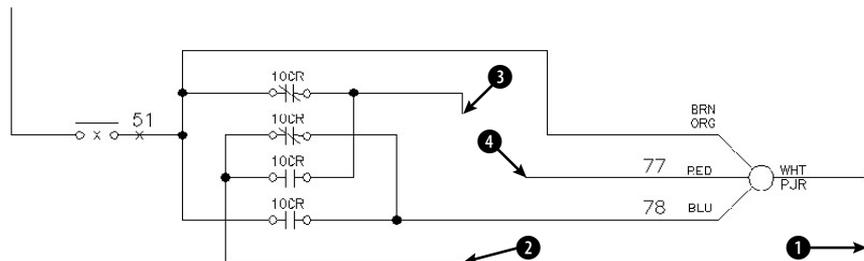

Figure 10-20: An electrical schematic.
2. Save the file as ab10-06.dwg in your AutoCAD Bible folder. It looks like Figure 10-20.
3.  Choose Extend on the Modify toolbar. At the Select objects: prompt, pick the line at ❶ in Figure 10-20 and then press Enter.
4. At the **Select object to extend or shift-select to trim or [Project/Edge/Undo]: prompt**, pick the line at ❷ in Figure 10-20. Press Enter to finish selecting objects. The command extends the line.
5. Repeat the EXTEND command. At the **Select objects: prompt**, pick the lines at ❸ and ❹ in Figure 10-20 and then press Enter.
7. Pick lines ❸ and ❹ in Figure 10-20 again at the points shown. The lines extend to meet. Press Enter to end the command.